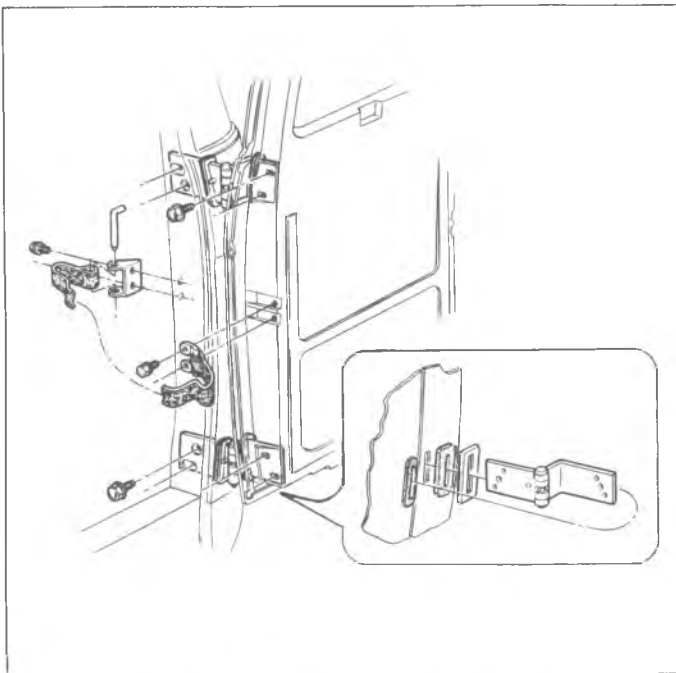

Fig. 31G—Rear Door Hinges and Strap
1. Remove strap release pin. See figure 31G.